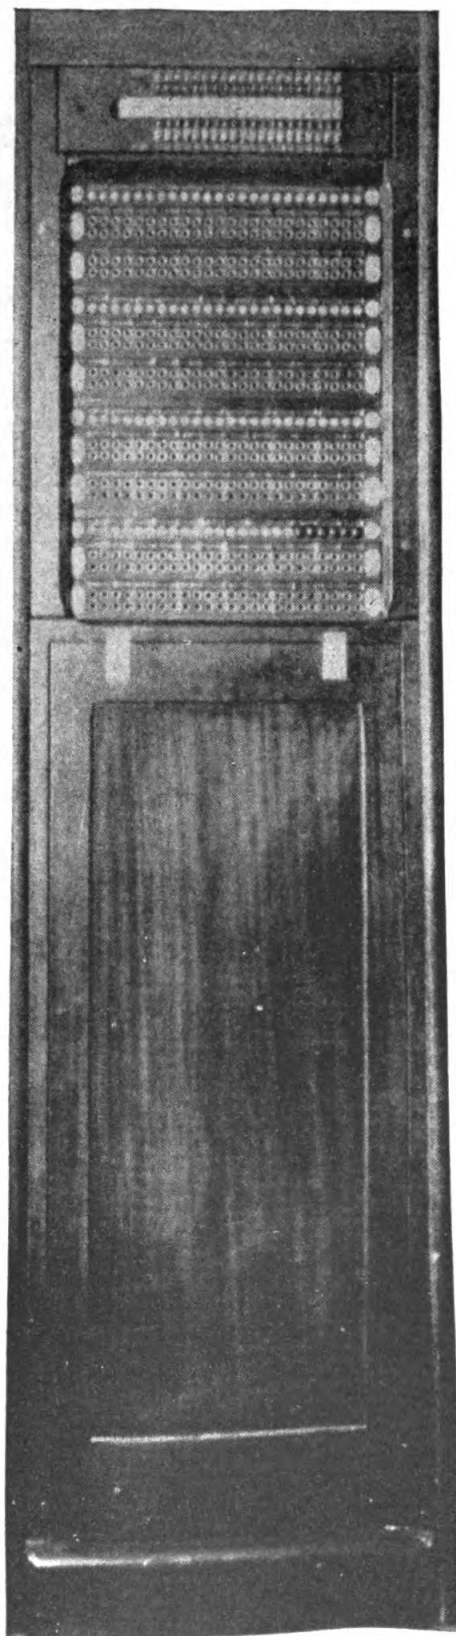

FIGURE 161.—Switchboard, type BD-74.
(1) Charge the storage battery.
(2) Ring the various time-interval and other signal bells throughout the fire-control system.
(3) Energize the telephone system directly in an emergency.
Q. What is the standard fire-control switchboard? *A.* The present standard fire-control switchboard is the type BD-74, which with the type BD-75 distributing frame replaces all previous switchboards used in fire-control telephone systems. It provides an extremely flexible system. (See fig. 161.)
(1) All permanent cross-connections for the fire-control telephone system are made either on the line terminal strips or the cross-connecting terminal strip in rear of the board.
(2) Repeating coils are substituted for retardation coils and provide for the application of battery voltage to the telephone and prevent battery voltage being applied to the line connecting two telephones.
(3) Where a telephone is connected to another telephone by means of a permanent cross-connection or by means of patching cords, signaling is accomplished by ringing the magnetos of the individual telephones without the intervention of an operator.
(4) In addition to the permanent connections, the terminals of the line to each telephone in the system are brought to a unit of four jacks on the front of the switchboard.
(5) These jacks are arranged in a vertical row, marked from top to bottom, "Line," "Swbd," "Tie," and "Tie C. O."